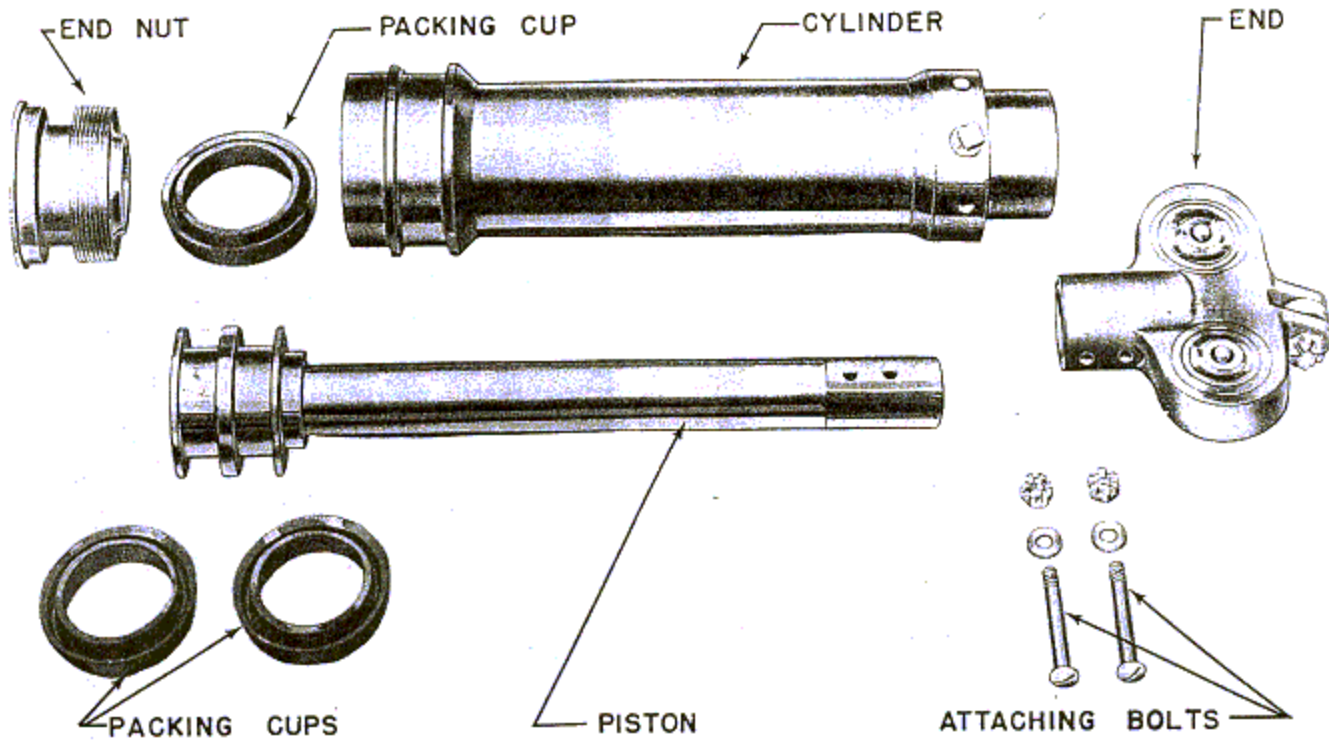

Figure 251—Flap Actuating Cylinder Disassembled
9. The rubber cups may now be removed from the end nut and the piston and the actuating strut is disassembled. (See figure 251.)